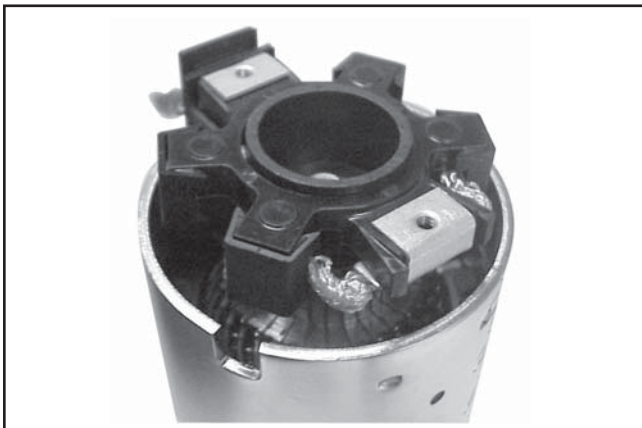

Figure 7-30. Installing Brush Holder Assembly with Supplied Tube.
- a. Hold the starter assembly vertically on the end housing, and carefully position the assembled brush holder assembly, with the supplied protective tube, against the end of the commutator/armature. The mounting screw holes in the metal clips must be **up/out**. Slide the brush holder assembly down into place around the commutator, and install the positive (+) brush lead grommet in the cutout of the frame. See Figure 7-30. The protective tube may be saved and used for future servicing.